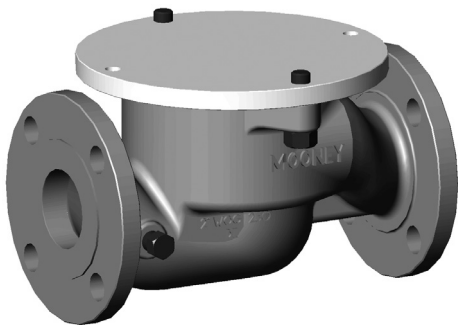

Figure 4 - Installed hydrostatic plug
**Note: A plug for hydrostatically testing the Body is available from the factory (see Figure 4).**